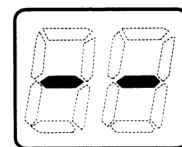

Fig. 1
STEP 2: Check that the display on all Four controllers is lit and displaying a temperature when switched on. If any ONE of the controllers displays two dashes (see Fig. 1) in the display repeat STEP 1.